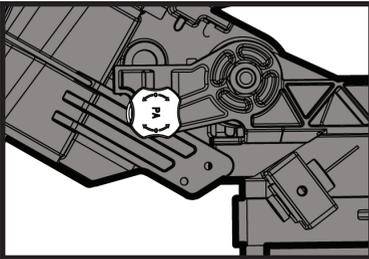

Fig 11
- Pull out the cutting head stop latching knob and allow the head to rise to its upper position. (Fig 11)